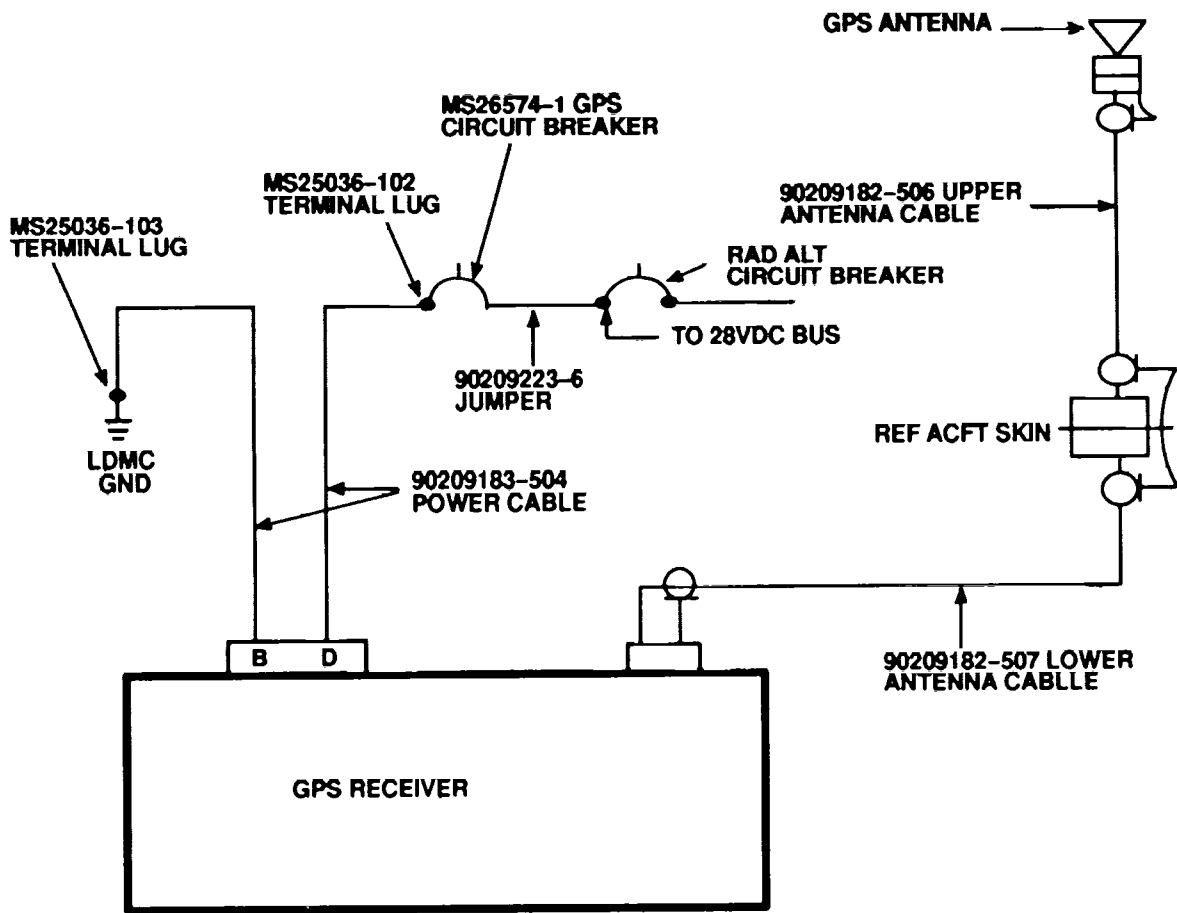

Figure 7. GPS Wiring Diagram.
- (1) Perform continuity check on coax cable for Trimpack remote antenna.
- (2) Close access to overhead console circuit breakers and wiring.
- (3) Install overhead cabin sound proofing blanket.
- (4) Connect aircraft battery.
- (5) Apply aircraft power to provide 28 VDC to GPS circuit breaker.
- (6) Verify pin B of GPS five pin audio connector is common with airframe ground.
- (7) Verify that pin D has 28VDC (Figure 7).